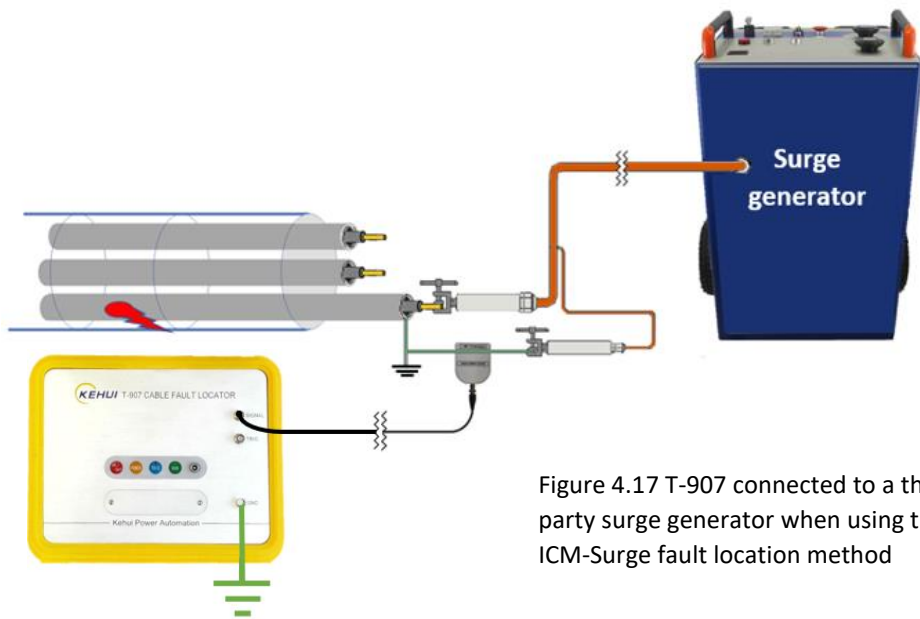

Figure 4.17 T-907 connected to a third-party surge generator when using the ICM-Surge fault location method
Refer to Figure 4.17 for the connection of the surge generator. The linear current coupler required for ICM is provided with the T-907. Switch on the surge generator and select the pulse mode and the ICM test method.
Pressing the Test button (figure 4.14⑧) leads to the “Armed” prompt (figure 4.17) which means that the device is ready to trigger, when the surge generator operates.